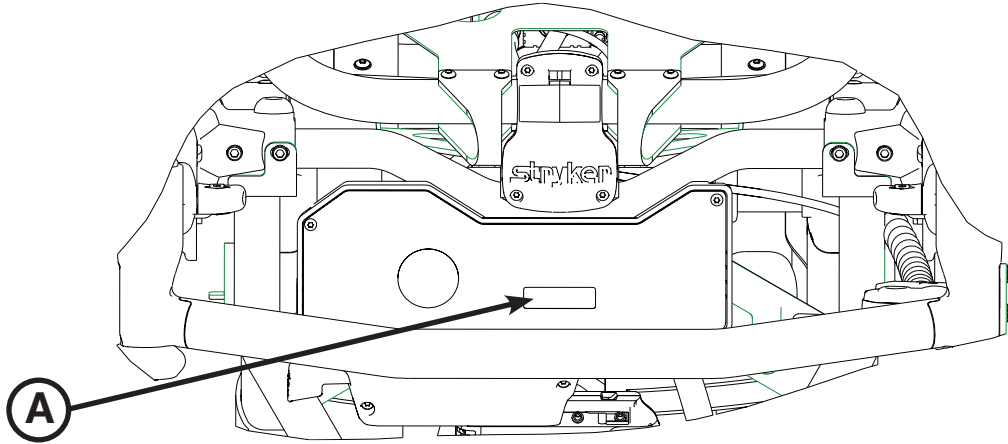

Figure 7
The hour meter (A), located on the foot end control enclosure, indicates the amount of time (HHH.H hours) that the hydraulics have been activated as shown in Figure 7. You can use the hour meter to determine the frequency for preventive maintenance procedures as listed on page 56.